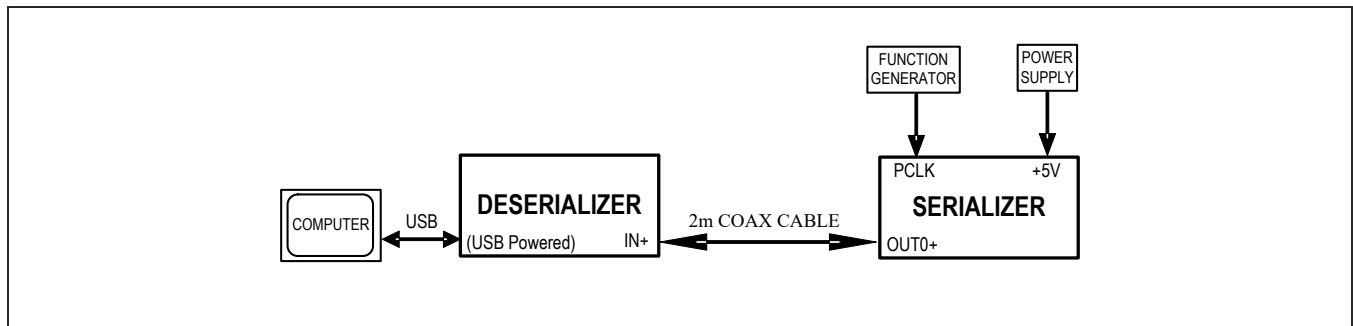

Figure 1. MAX9288/MAX9290 Evaluation Board Test Setup
- 4) Set up the system, as shown in Figure 1.